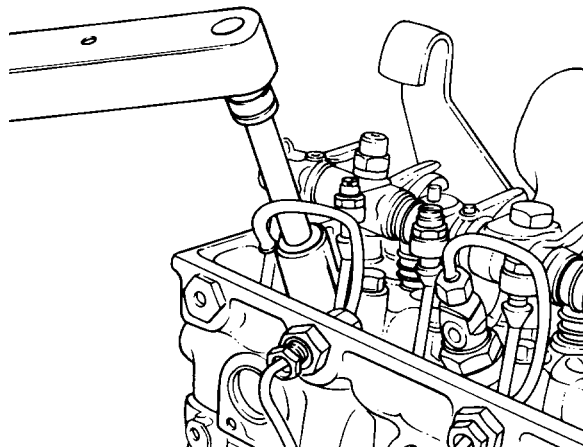

Figure 105 - Protective Sleeve - Installation
- b. Lubricate the outside of the protective sleeve with Vaseline and install the sleeve in the cylinder head using the tube spanner (Table 2, Item 9). Torque the protective sleeve to 60 Nm (Fig 105).